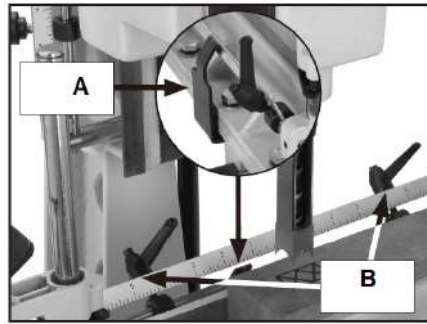

Fig 9
3. Use the table stop handles (A B Fig 9) to control how far the table moves to the left and right.